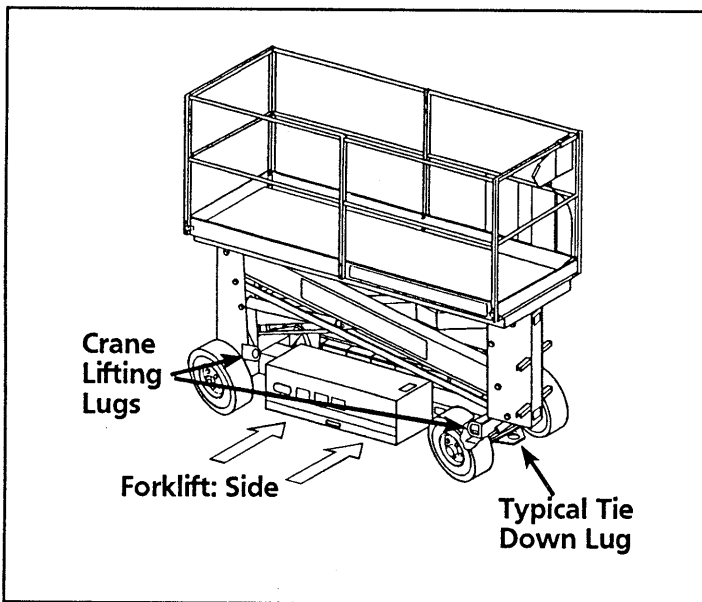

Figure 2-3: Forklift Sockets & Tie Down Brackets
Forklift from the side by lifting under the Chassis Modules (Figure 2-3).
Secure straps to Chassis Lifting Lugs **only** (Figure 2-3).
2. Secure the work platform to the transport vehicle with chains or straps of adequate load capacity attached to the chassis tie down lugs (Figure 2-3).